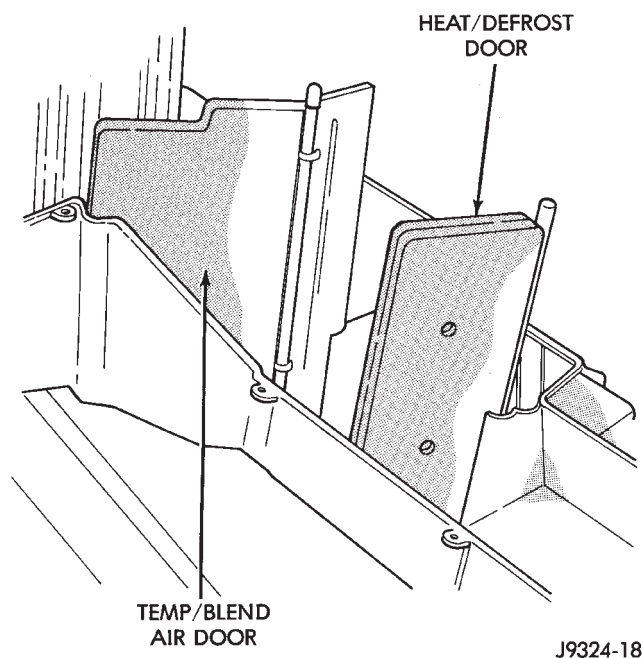

Fig. 56 Blend-Air Door
(1) Remove the heater-A/C housing from the vehicle, and disassemble the housing halves. See Heater-A/C Housing in the Removal and Installation section of this group for the procedures.
(2) Lift the blend-air door pivot shaft out of the pivot hole in the bottom of the heater-A/C housing (Fig. 56).